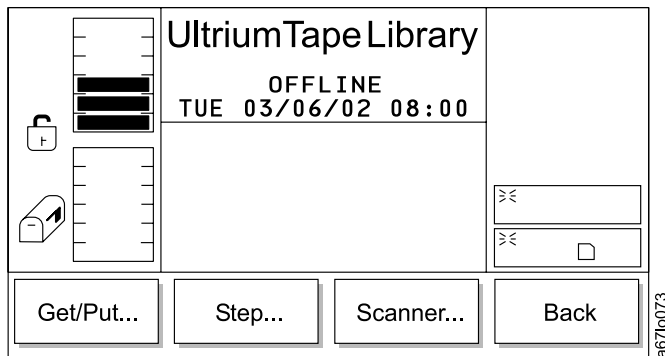

Figure 167. Fingers Submenu
- If **Fingers** is selected, the Fingers Submenu displays (see Figure 167 on page 136).
- If **Cancel** is selected, the Fingers Submenu displays (see Figure 167 on page 136).